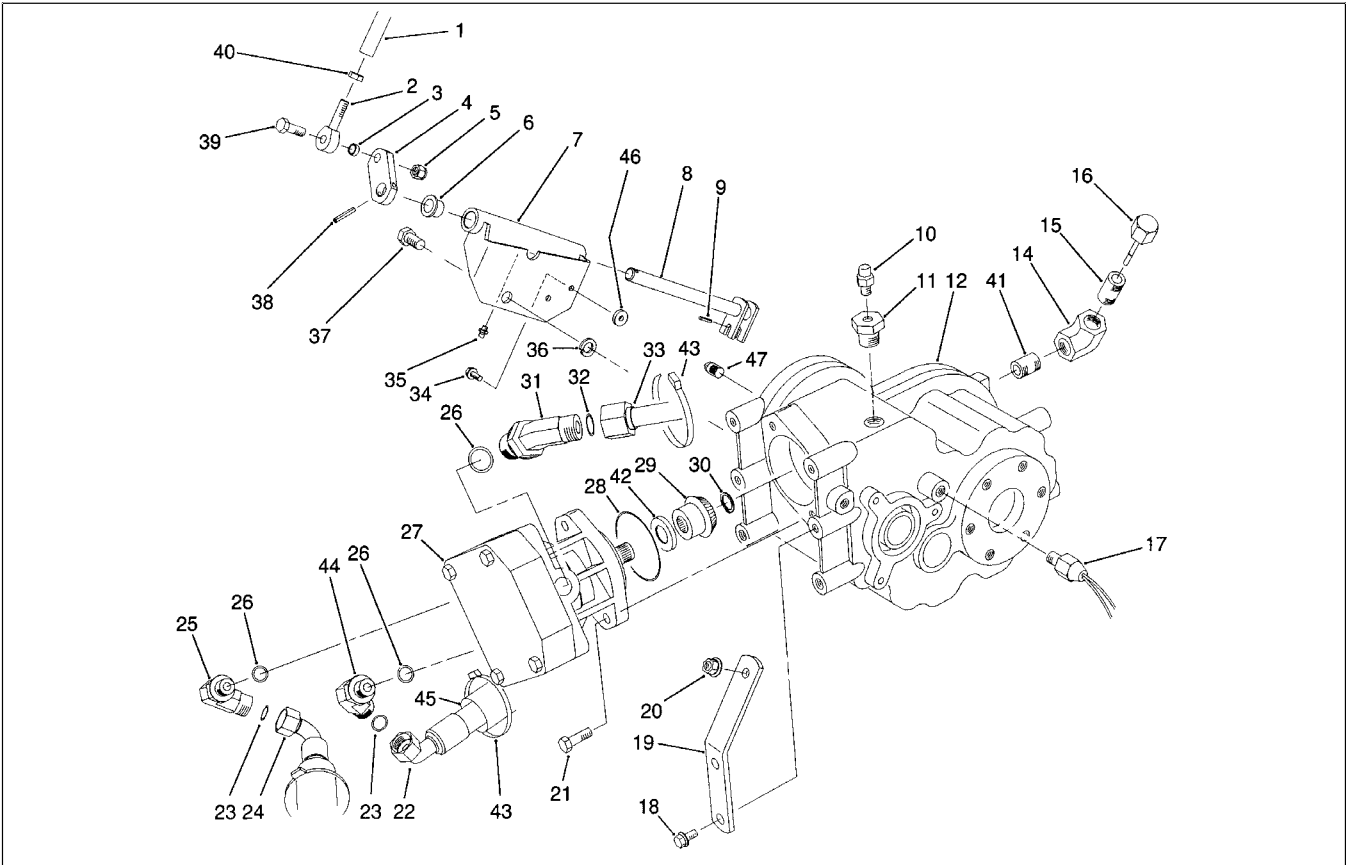

Figure 11
5. Disconnect hydraulic motor (Fig. 11, Item 27) from transaxle. DO NOT disconnect hoses from hydraulic motor.
6. Install hi/low interlock switch (Fig. 11, Item 17) into transaxle case if removed.